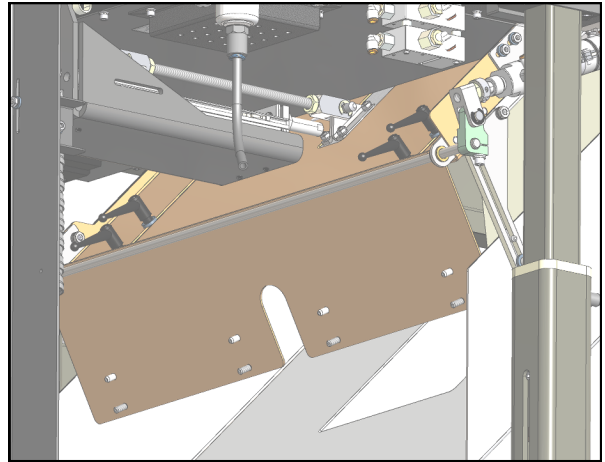

Figure 4-5B. Load Plate Adjustment.
1. Loosen the four Handles on the back of the Load Plate. Figure 4-5B.